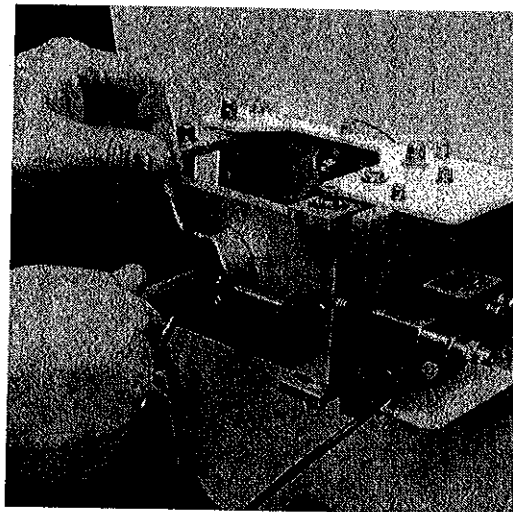

Figure 8 Insert Your Model from inside the Working Section and Clamp it into Position.
7. Place your model into the working section and slide its support shaft through the hole in the middle of the AFA2 Balance Assembly. Set the model to the correct angle for your tests (usually zero incidence for aerofoil models) and tighten the three thumbscrews on the Balance Assembly to clamp the model (see Figure 8).